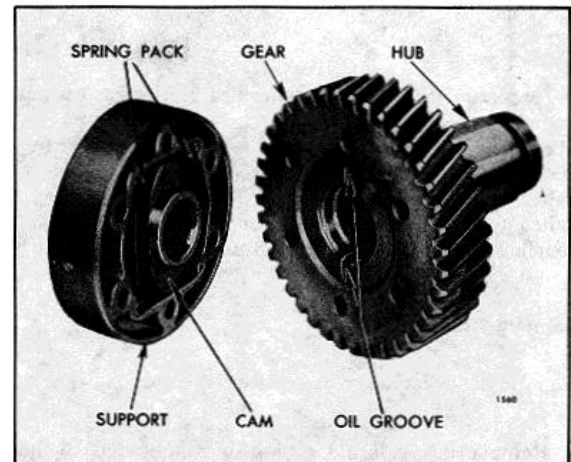

Fig. 7. Relation of Blower Drive Cam to Oil Grooves in Gear Hub
8. Place the coupling support against the drive gear with the blower drive shaft ring groove in the cam facing away from the drive gear. Then, place the drive coupling retainer (71) against the coupling support with the flared edge away from the support. Revolve the coupling assembly on the hub flange until the cam lobes are in line with the oil grooves in the gear hub (Fig. 7) to ensure proper lubrication.